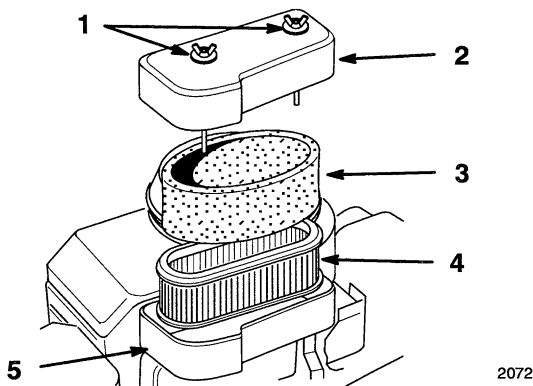

Figure 15
2. Clean around the air cleaner to prevent dirt from getting into the engine and causing damage. Unscrew the cover nuts and remove the air cleaner cover (Fig. 15).
3. Remove the air cleaner assembly (Fig. 15).
4. Carefully slide the foam element off the paper element (Fig. 15).